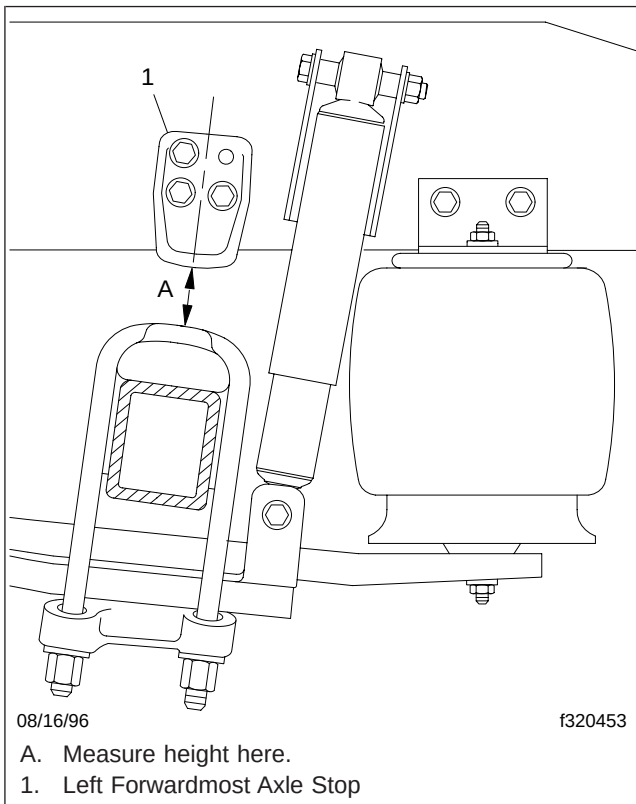

Fig. 6, AirLiner Axle Stop Measurement
4. On single-drive rear axle configurations, measure the distance from the bottom of the left axle stop to the top of the U-bolt pad. On tandem (dual-drive) rear axle configurations, measure the distance from the bottom of the forwardmost left axle stop to the top of the axle U-bolt pad. See **Fig. 6**, Ref. A. The correct distance for single and dual-drive rear axles is between 2-3/8 inches and 2-7/8 inches (60 to 73 mm).